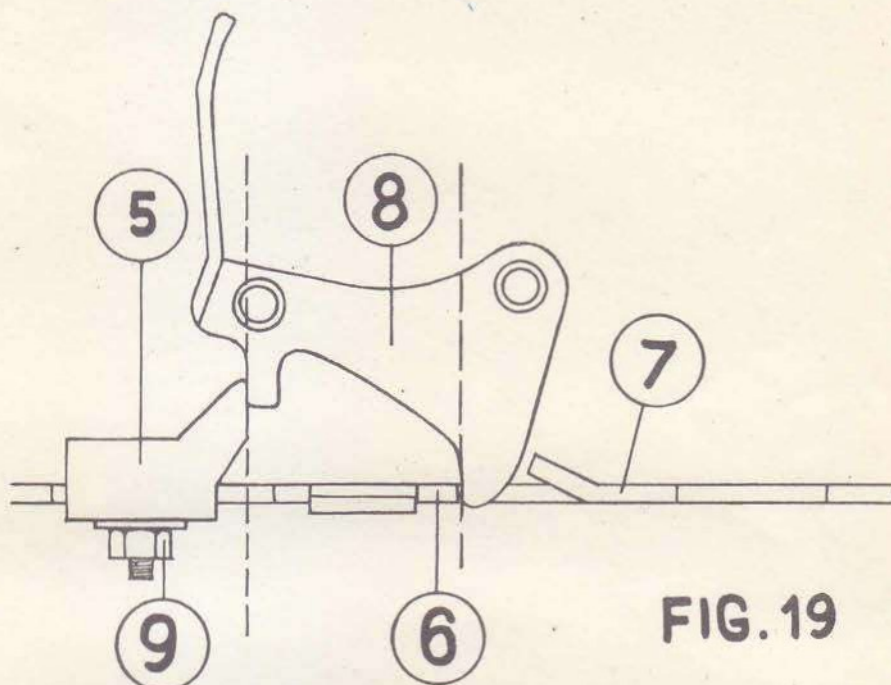

FIG. 19
- c) Adjust height by turning the bright hexagonal lifter skid screw (No.710048) (4) (at the right, outside of the thread release No. 720129) clockwise or counter-clockwise (as required) until the underside of the pointed portion of the guard ring stop is .009" to .012" above the shuttle hook, as explained before.
- d) Tighten black nut (No.500336) by using two end wrenches (7 millimeters) simultaneously on nut and lifter skid screw No.710048 (4).
3. Adjusting the Lateral Position of the Guard Ring Stop (No. 760085) (Fig. 19)